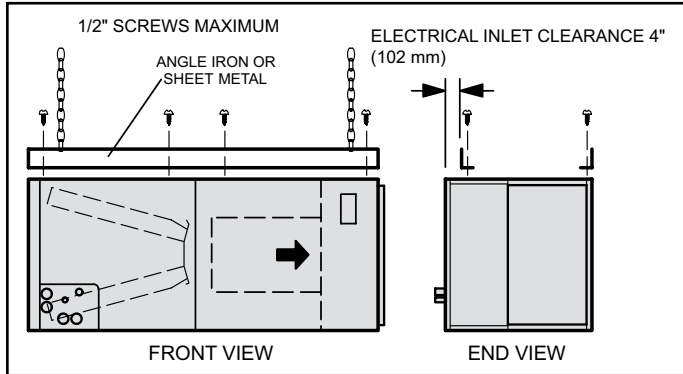

Figure 3. Suspending Horizontal Unit
4. If the unit is suspended, the entire length of the cabinet must be supported. If you use a chain or strap, use a piece of angle iron or sheet metal attached to the unit (either above or below) to support the length of the cabinet. Use securing screws no longer than 1/2" to avoid damaging the coil or filter as illustrated in Figure 3. Use sheet metal screws to connect the return and supply air plenums as required.
14. If suspending the unit, it must be supported along the entire length of the cabinet. If using chain or strap, use a piece of angle iron or sheet metal attached to the unit (either above or below) so that the full length of the cabinet is supported. Use securing screws no longer than 1/2" to avoid damage to coil or filter, as illustrated in Figure 3. Connect return and supply air plenums as required using sheet metal screws.